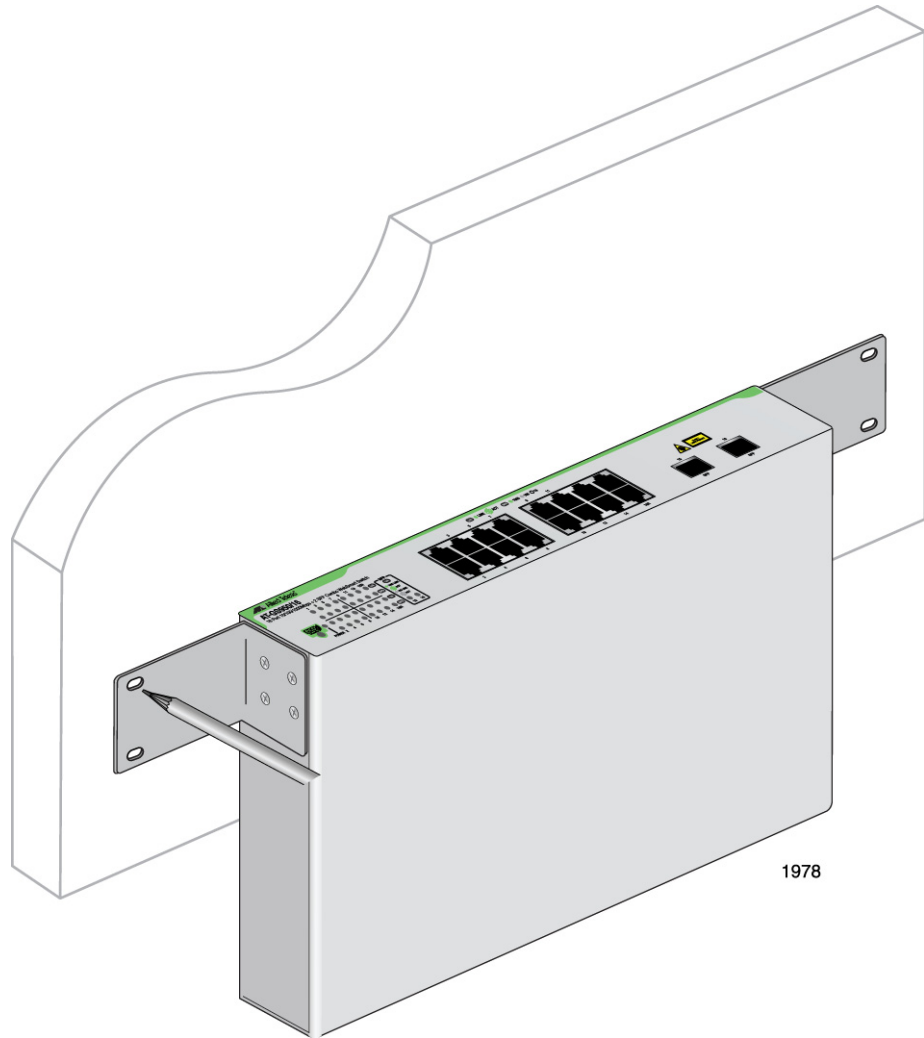

Figure 10. Marking the Screw Hole Locations
4. Have another person hold the switch at the wall location where the switch is to be installed, while you use a pencil or pen to mark the wall with the locations of the four holes in the brackets. The switch should be oriented such that its front faceplate is facing up and is level to the floor. See Figure 10 on page 40.